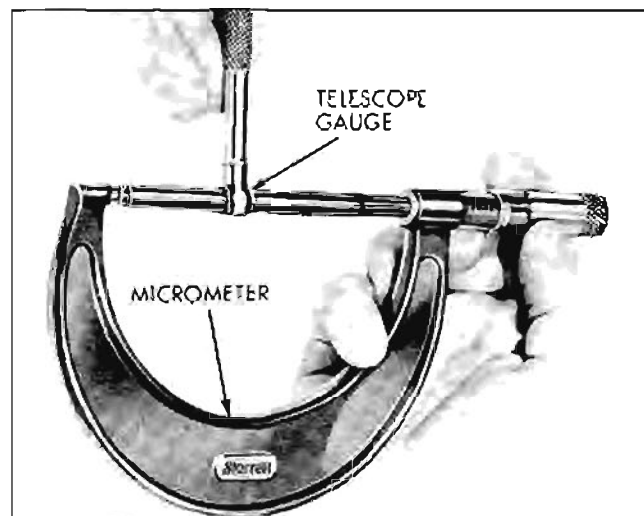

Fig. 6-117 Measuring Telescope Gauge
2. Measure the telescope gauge. See Fig. 6-117.